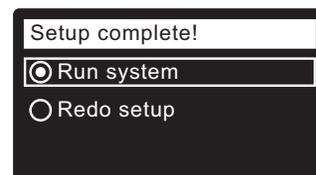

FIG. 23
- Press the SELECT (O) button. The screen will show "Setup complete!" (See Figure 23).
- If, at this point, you want to go back and make changes, press the DOWN (▼) button to scroll to **Redo setup**, then press the SELECT (O) button twice to repeat the "wizard" screens.
- If no changes are desired, make sure **Run system** has a dot next to it (See Figure 23) and press the SELECT (O) button. The unit begins normal operation, described on Page 16.